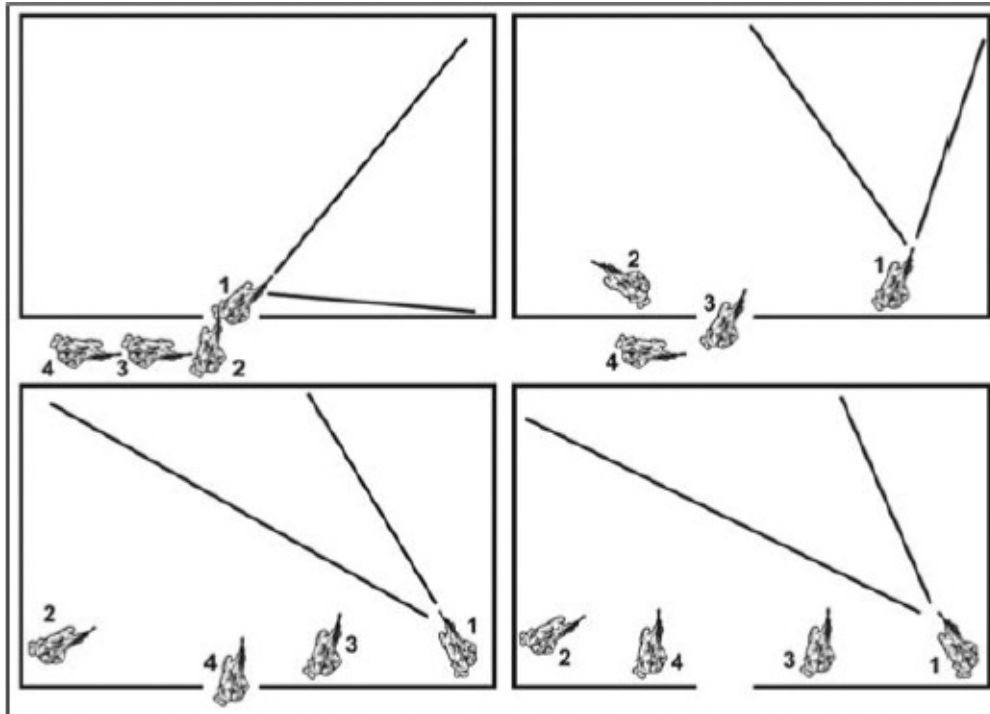
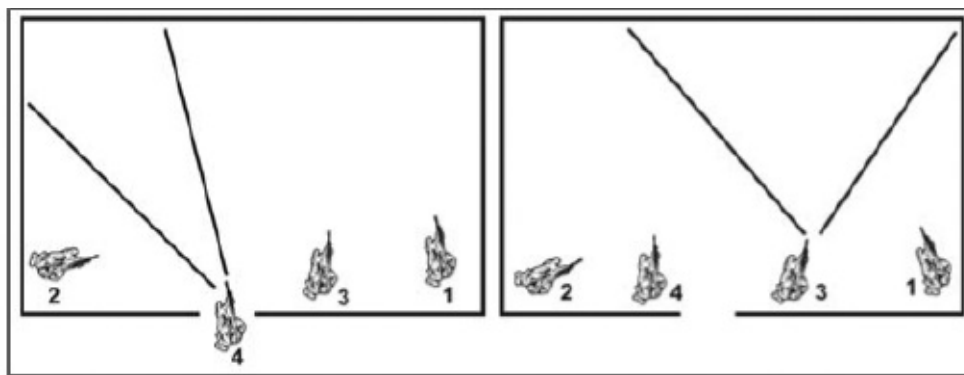

Figure 4-6. First man enters a room, followed by team leader
Figure 4-9. Fourth man in a room
REQUIRED ACTIONS: See Figures 4-6 through 4-14.
12. On the signal to go, or after the grenade detonates, the assault team moves through the entry point (Figure 4-6 through Figure 4-9) and quickly takes up positions inside the room that allow it to completely dominate the room and eliminate the threat. Unless restricted or impeded, team members Stop movement only after they have cleared the door and reached their designated point of domination. In addition to dominating the room, an team members are responsible for identifying possible loopholes and mouseholes in the ceiling, walls, and floor.
17. The direction each man moves in should not be preplanned unless the exact room layout is known. Each man should go in a direction opposite the man in front of him (Figure 4-6), Every team member must know the sectors and duties of each position.
21. The fourth man (normally the SAW gunner) moves opposite of the third man, clears the doorway by at least 1 meter, and moves to a position that dominates his sector (Figure 4-9.)